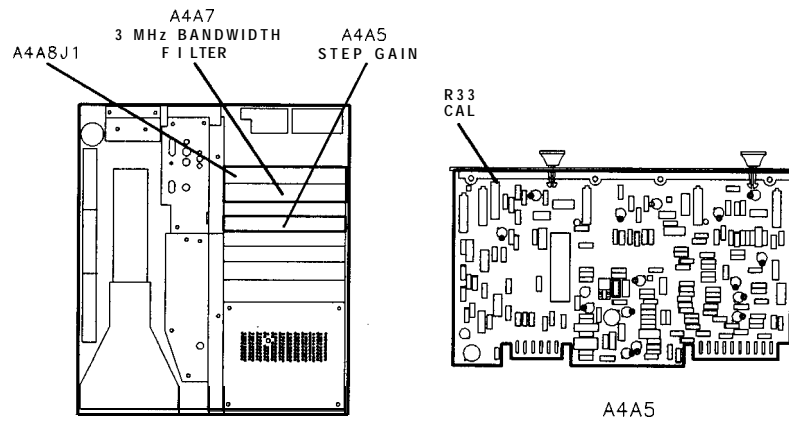

Figure 3-47. Location of IF Gain Adjustment
10. Disconnect cable 97 (white/violet) from A4A8J1 and connect cable to the calibrated power meter/power sensor. Refer to Figure 3-47 for location of cable 97 and A4A8J1.
- Note MARKER amplitude in mV and adjust A4A5R33 CAL to 70.7 mV (top CRT graticule line). See Figure 3-47 for location of adjustment.